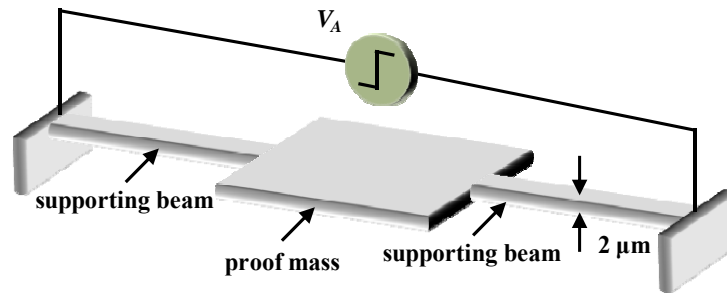

Figure 4
3. Suppose a step-function voltage V_A were suddenly applied across the anchors of a $2\mu\text{m}$ thick polysilicon fixed-fixed beam and proof mass as shown in Figures 4 and 5, which also provide lateral dimensions. For polysilicon, assume the following material properties: Young's modulus $E = 150 \text{ GPa}$, density $\rho = 2,300 \text{ kg/m}^3$, Poisson ratio $\nu = 0.226$, sheet resistance = $10 \Omega/\square$, specific heat = $0.77 \text{ J/(g}\cdot\text{K)}$, and thermal conductivity = $30 \text{ W/(m}\cdot\text{K)}$.